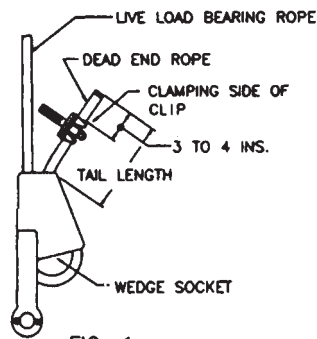

FIG. 1
1. Dead end wire rope tail length should be at least 6 rope diameters, but not less than 6 inches beyond the wedge socket. Figure 1.
2. Apply U-bolt and first saddle on dead end rope and the second saddle on live end rope. Install nuts. Figure 1&2.
3. Position the dual saddle clip so that 3 to 4 inches of dead end rope remain beyond the clip. Figure 1 & 2.